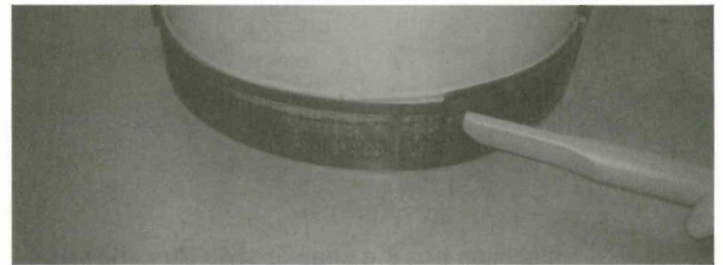

Figure 7
- The filter can be cleaned using a vacuum (See Figure 7). It is not necessary to remove the filter to clean the back sections.